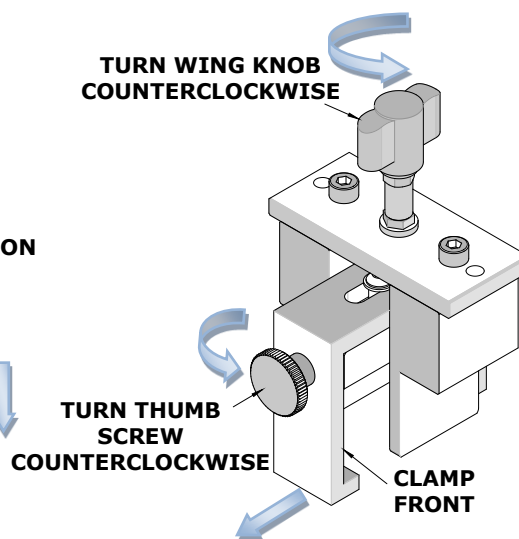

Figure 4
2. Turn the thumb screw counterclockwise so the clamp front can slide forward as shown in Figure 4.